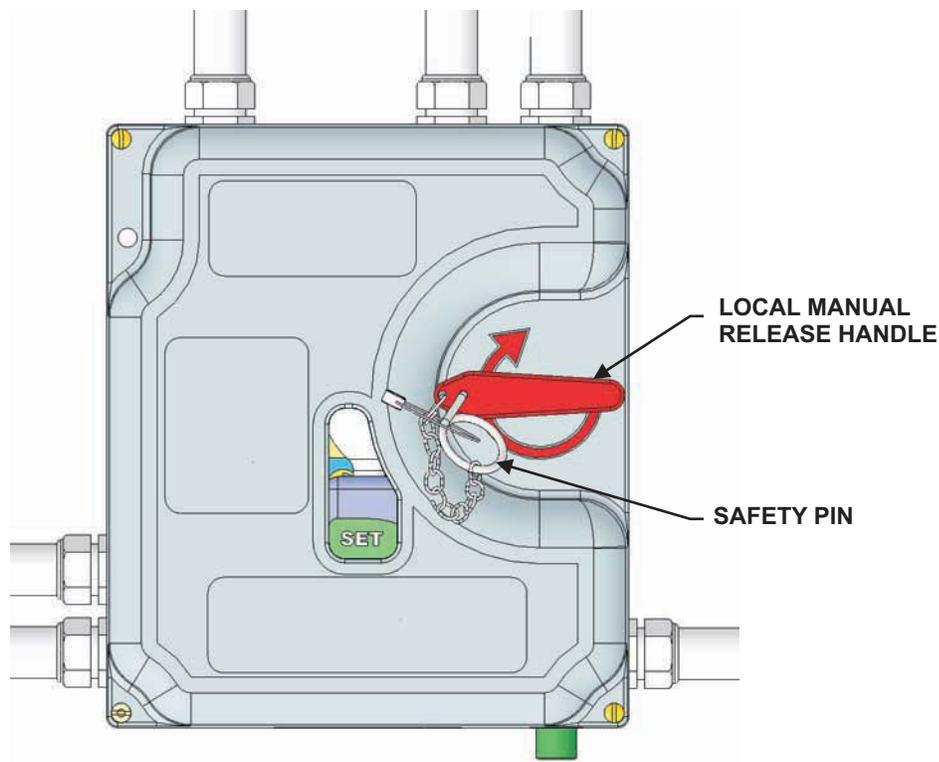

Figure 5-1. Universal Control Head, Outside View
<input type="checkbox"/>	If wall mounted, the Universal Control Head must be tightly bolted to the wall. If cylinder mounted, the Universal Control Head must be tightly bolted to the SVA. The Cam/Flag on the Universal Control Head indicator should point to the ‘Set’ position. The safety pin and seal wire on the local manual release handle should be in place. Refer to Figure 5-1. If no Remote Manual Release (P/N B875572) is installed, the path to the local manual release on the cylinder should be clear and unobstructed and within reach.
2. Operate the Remote Manual Release by pulling the safety pin located on the Remote Manual Release, and then pulling on the release handle (refer to Figure 5-1).